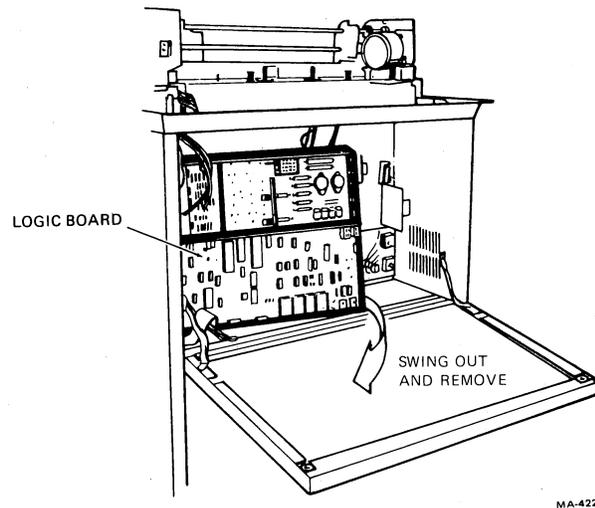

Fig. 22-Logic Board Removal and Installation
- (c) Disconnect all the connectors from the logic board (Figures 22 and foldout).
- (d) Disconnect the connectors from J2 and J4 on the logic board (Figure 22).